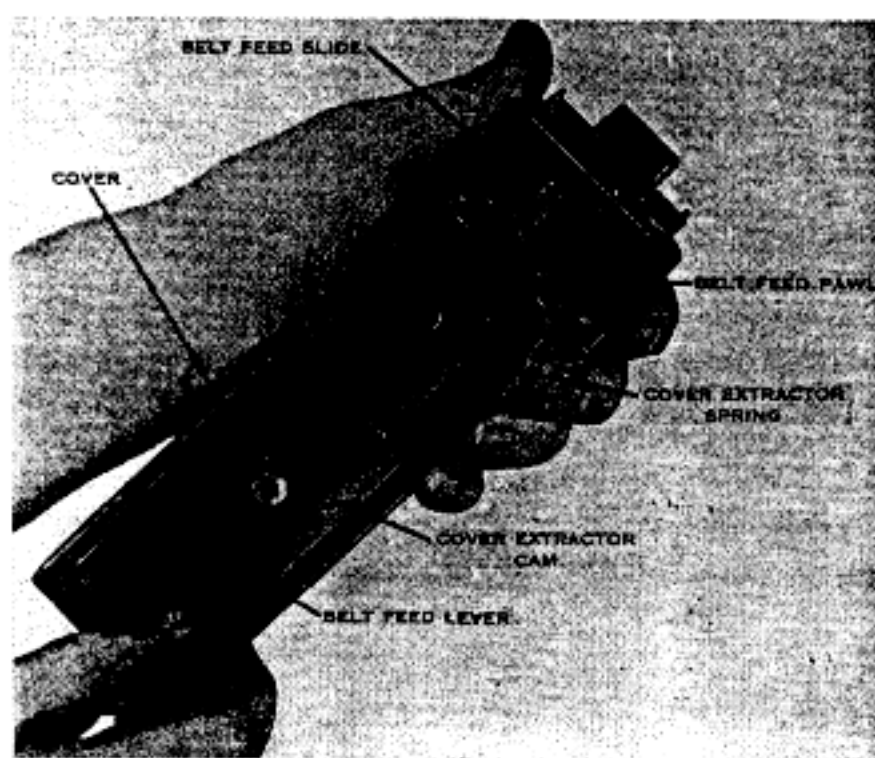

Figure 46. Remove belt feed lever.
**b. Belt Feed Lever.** Withdraw the belt feed lever from its recess in the belt feed slide and remove lever (fig. 46).